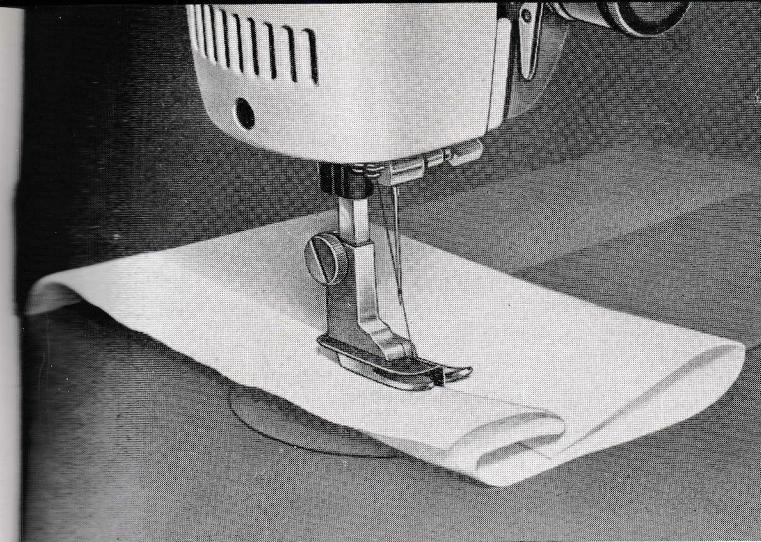

Fig. 62
*Presser foot:* Attach the normal zig-zag stitch hinged presser foot to the presser foot bar as shown in Fig. 62.